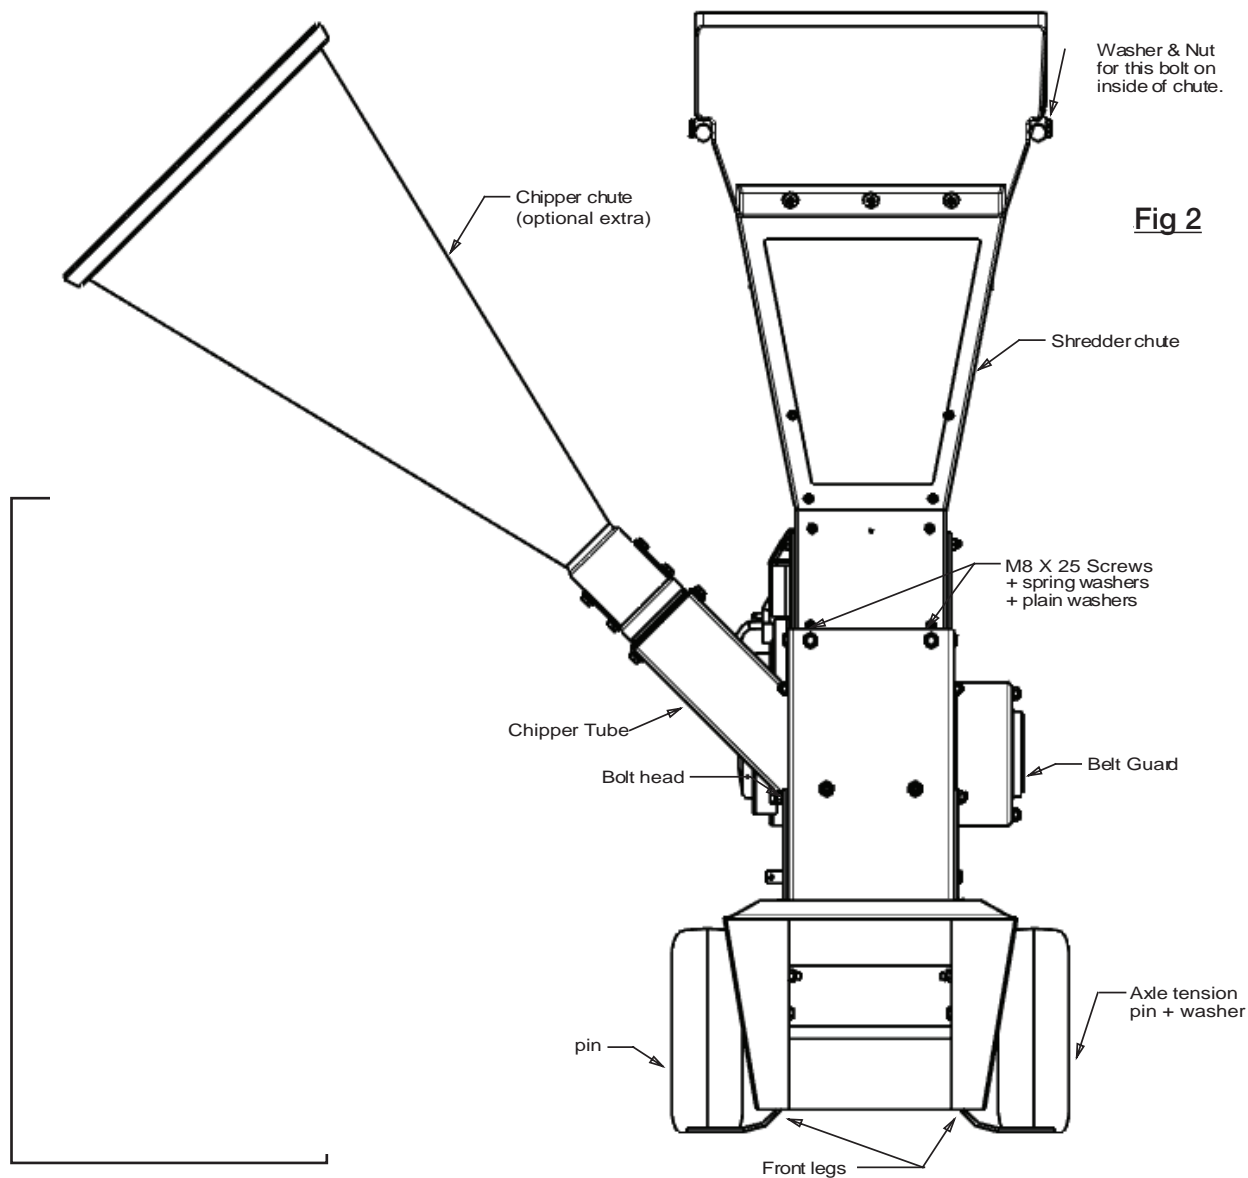

Fig 2
8. Attach the shredder chute to the chassis using two 8mm x 20mm screws and two chute retainers, with plain washers and spring washers on the screws at the front and with two Nyloc nuts outside the chute at the sides. See Fig. 2.
9. Attach the Chipper Chute to the Chipper Tube and tighten the clamp (see Fig 2).